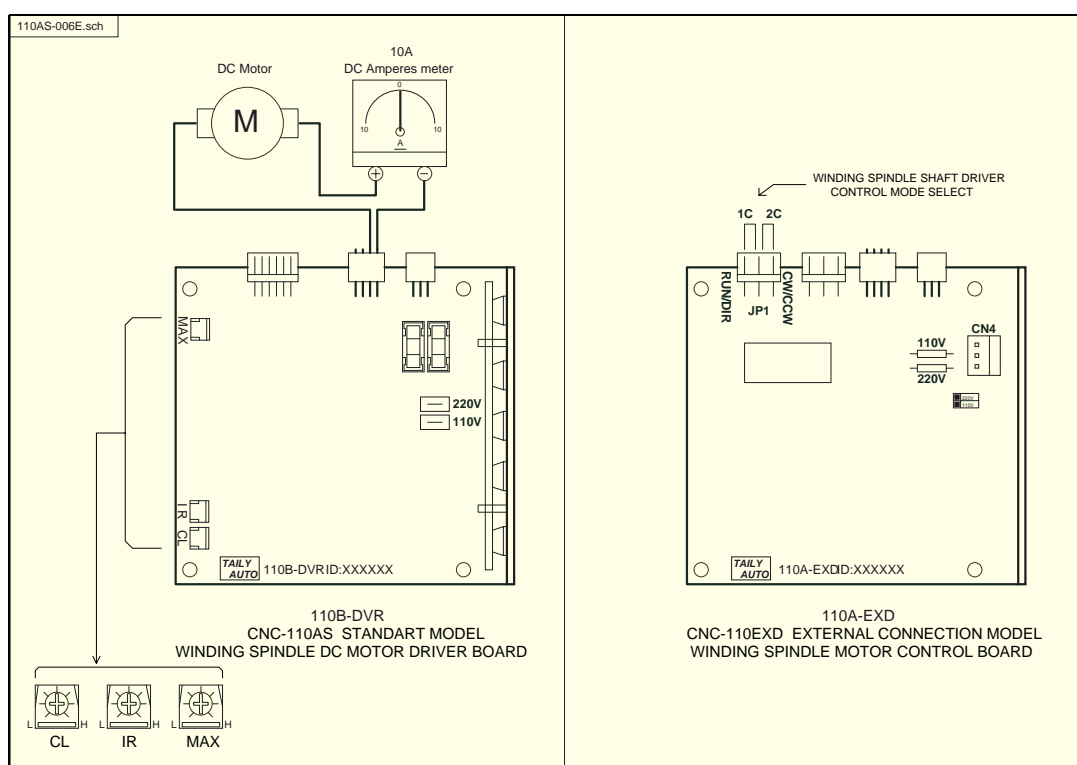
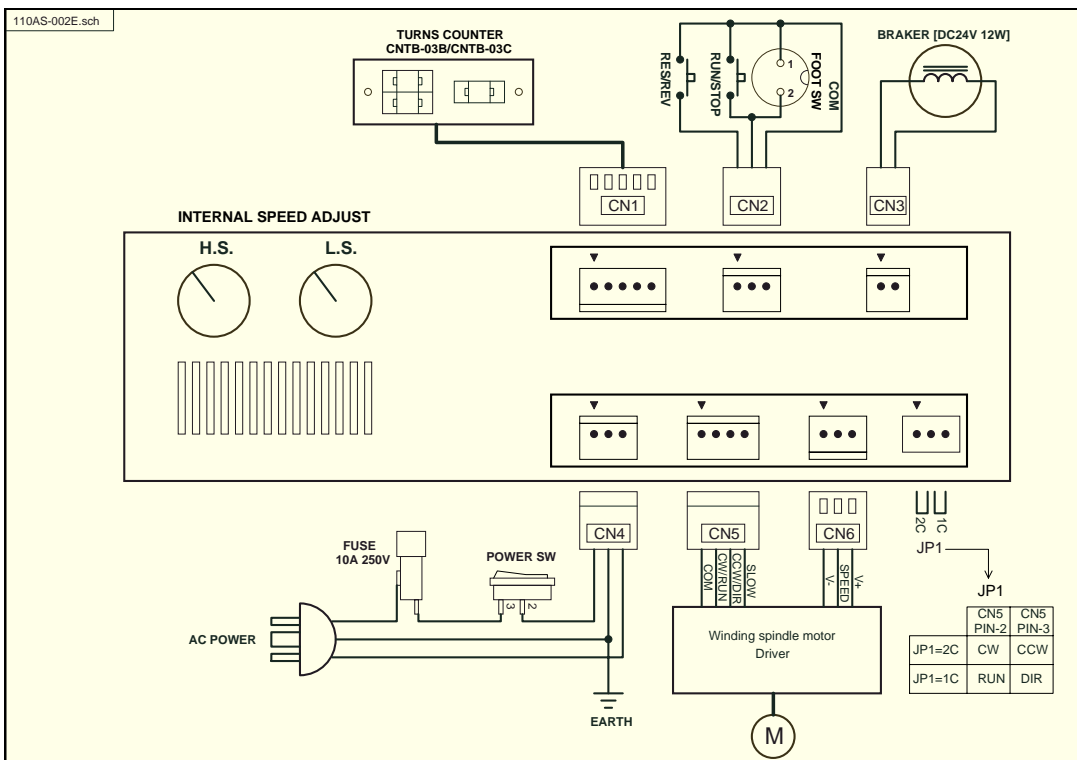

Figure-1
Figure-3
1. Locking the winding spindle shaft, to make it cannot move; connect a DC Amperes meter between terminal and DC motor. (See Figure-1).
Select by JP1 (see Figure-1 or Figure-3).